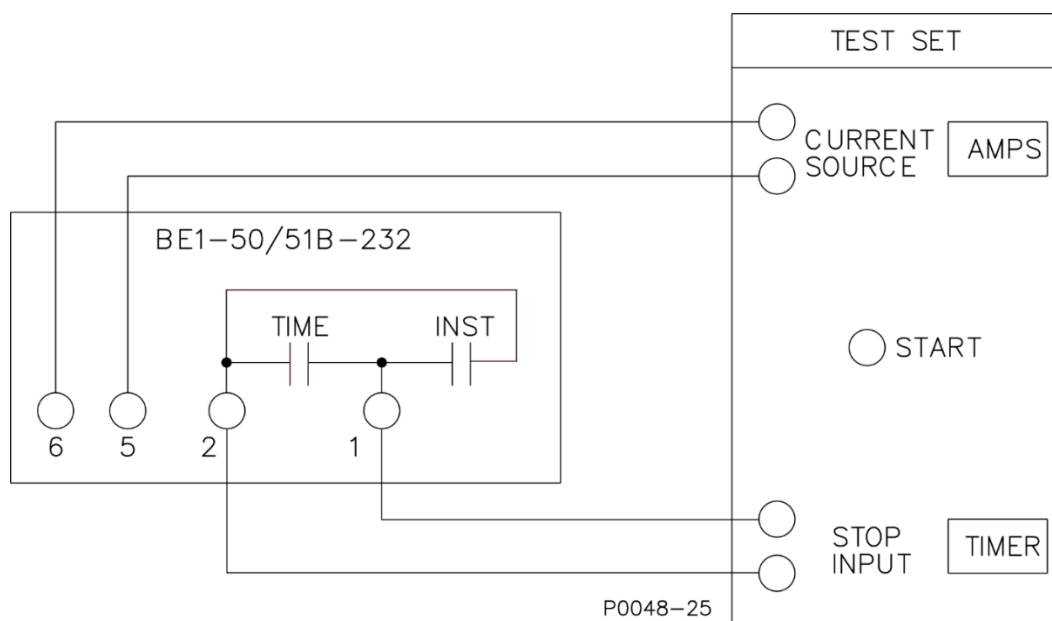

Figure 5-1. Pickup and Timing Test Setup
The following procedures verify operation of relays BE1-50/51B-232. The test setup of Figures 5-1 and 5-2 are intended primarily as an illustration of the principles involved. Other test setups known to be capable of testing with the stated and implied tolerances (including equipment specifically designed for testing relays) may be used.
- Connect test setup as shown in Figure 5-1.
Single-phase relays such as the BE1-50/51B-232 are normally used in groups of four (three phase and ground) on the protected circuit. This relay scheme allows each unit to be withdrawn one at a time for testing purposes without losing protection. Only three are required at any one time to sense all types of faults on a grounded wye system. Refer to Figures 5-1 and 5-2 for recommended test setups.